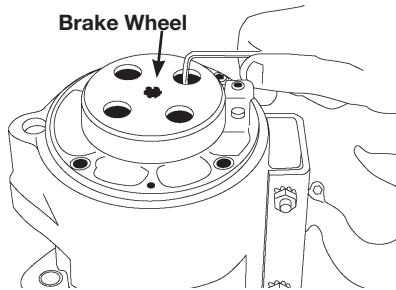
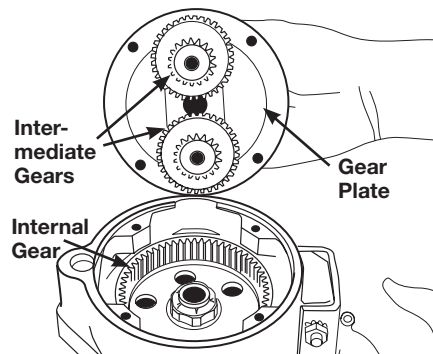
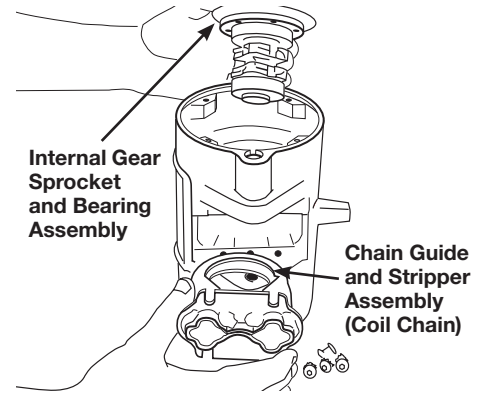
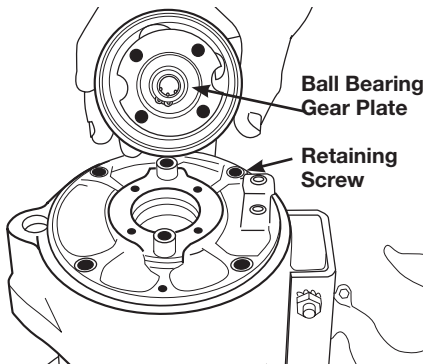

Figure 18- Removing Cap Screws Securing Bearing Clamp Plate
Figure 20- Removing Gear Plate and Intermediate Gears
Figure 21- Removing Internal Gear, Chain Sprocket and Ball Bearing Assembly
Figure 19- Removing Brake Wheel and Ball Bearing Assembly
1. Rotate brake wheel until holes in web are aligned with four socket head cap screws (Figure 18). Remove screws, then lift brake wheel off (Figure 19) after prying up lightly and evenly with screwdriver to free ball bearing. Ball bearing and clamp plate are pressed off after removing retaining ring from wheel hub.
2. Remove four socket head screws securing gear plate to frame and lift off plate and intermediate gears as a unit (Figure 20). Do not remove the two socket head screws from flange around brake wheel bearing hole (Figure 19) unless it is necessary to replace intermediate gears.
3. Remove four fillister head screws attaching chain guide and stripper assembly to hoist frame. This will free guide to allow sprocket to be pulled through it as it is removed in step (5) (See Figure 21).
4. Rotate internal gear (Figure 20) until holes in web align with six socket head screws securing bearing clamp plate to frame. Remove internal gear, chain sprocket and ball bearings as a unit (Figure 21). It may be necessary to tap sprocket to free ball bearings from bores in frame.
If the brake linings show excessive wear, replace brake shoes. In reassembling the brake, the brake wheel assembly goes into position first and is fastened in place by the four screws (See "Disassembly and Reassembly," page 13 Figures 18 and 19). Now place the steel fulcrum balls in their receiving cup, using a small amount of thick grease to hold them in place. The balls should retract completely into the receiving cups. Now place the shoes up to the fulcrum balls and brake wheel. Replace the brake